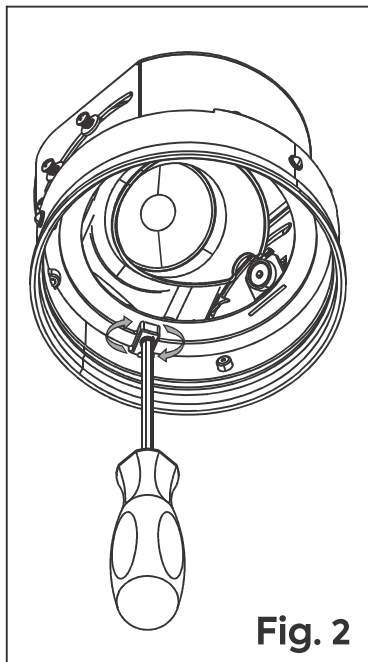

Fig. 2
Step 2: Rotate the lamp holder to aim the light. Once the target position has been set, tighten the set screw using the 1/8" Allen Key (LU332ALLEN) to lock it in place **Fig. 2**.